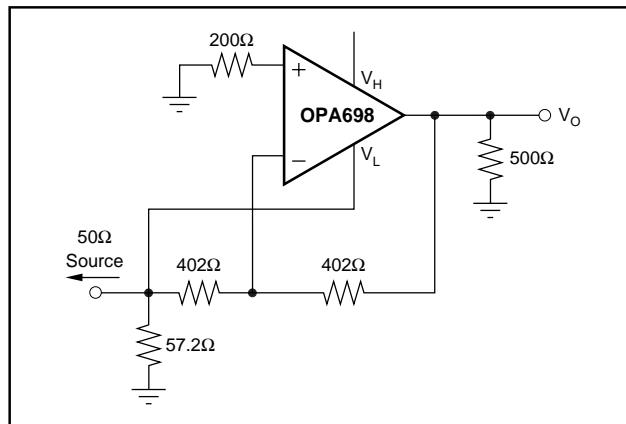
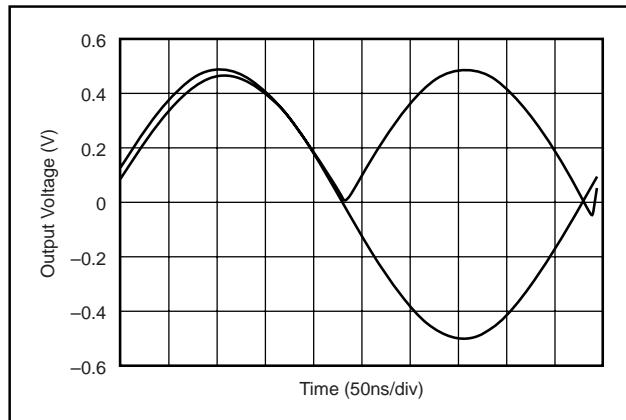

FIGURE 9. High-Speed Full Wave Rectifier #1.
FIGURE 10. 2MHz Sinewave Rectified.
(7) Limiter feedthrough is the ratio of the output magnitude to the sinewave added to V_H (or V_L) when $V_{IN} = 0$.
(8) V_H slew rate conditions are: $V_{IN} = V_{CM} + 0.4V$, $G = +2$, $V_L = V_{CM} - 1.2V$, V_H = step between $V_{CM} + 1.2V$ and V_{CM} . V_L slew rate conditions are similar.
(9) Linearity Guardband is defined for an output sinusoid ($f = 5MHz$, $V_O = V_{CM} \pm 1V_{PP}$) centered between the limiter levels (V_H and V_L). It is the difference between the limiter level and the peak output voltage where SFDR decreases by 3dB (see Figure 9).
The circuit shown in Figure 9 uses only one amplifier, in an inverting gain of -1 configuration. The upper limiting voltage is left open, resulting in an upper limiting voltage of $+3.5V$. The lower limiting voltage is connected to the input signal, resulting in the following behavior. When the input voltage is negative, the amplifier is not limiting, resulting in the inversion of the input sinewave to the output. During the positive excursion of the input signal, the output signal is being driven by the limiter input pin. Since the output is driven from the limiter input pin from positive inputs, the lower slew rate in the input path restricts the application of this approach to lower amplitude and/or frequencies. A 2MHz fully rectified sinewave is shown in Figure 10.